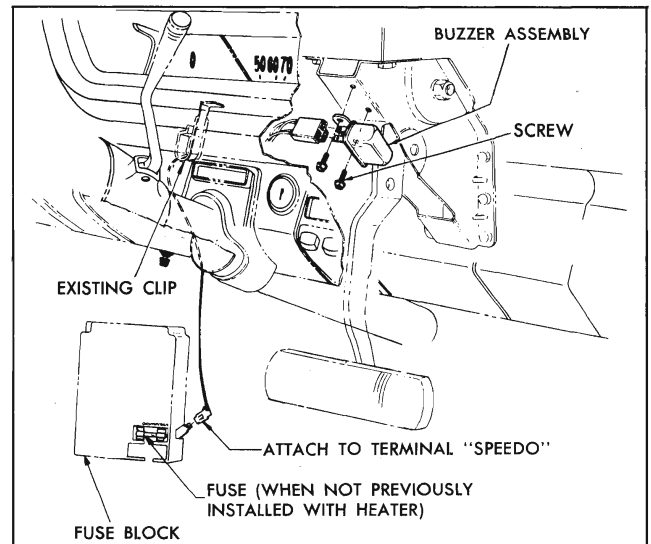

Fig. 12-10 Connections to Speedometer
1. Remove connector from buzzer (Fig. 12-10).